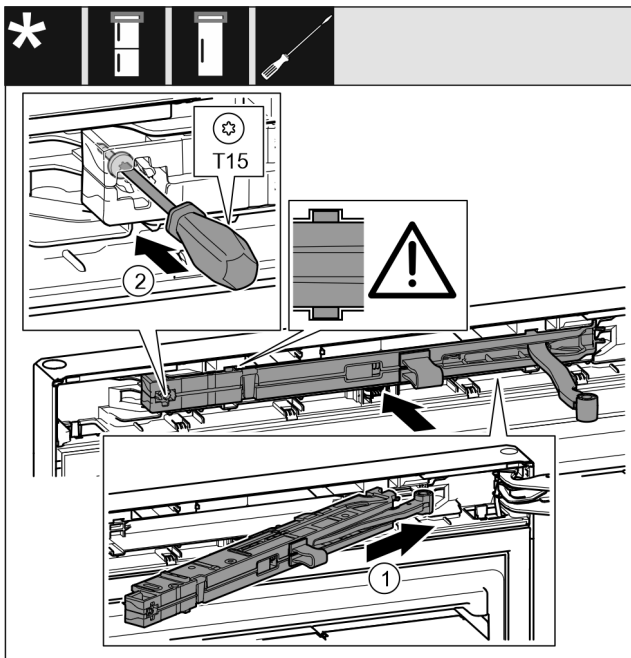

Fig. 24
- ▶ On the swap bearing block side, slide the closing damper unit Fig. 24 (1) into the recess at an angle up to the stop.
- ▶ Use a screwdriver to tighten the screw Fig. 24 (2).